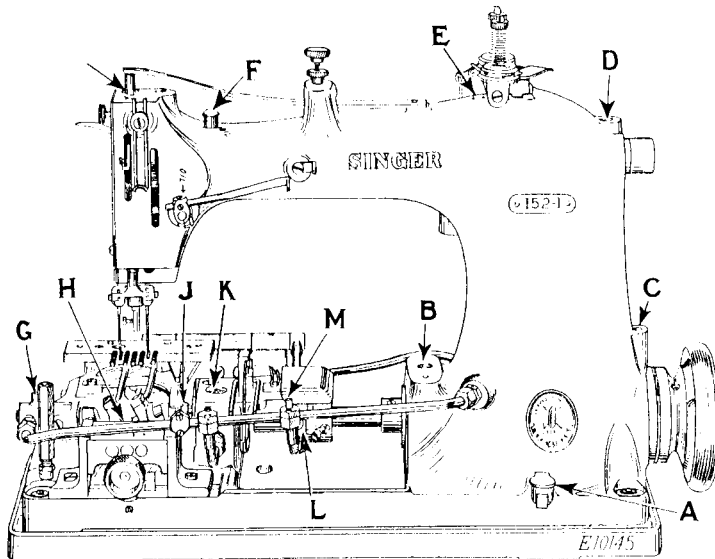

FIG. 2. PRIMING POINTS AT FRONT OF MACHINE
1. Oil reservoir cup (A, Fig. 2) must be filled until it stands **LEVEL FULL** of oil approximately 2 $\frac{1}{4}$ ounces of oil. This supply must be maintained.
2. Fill oil holes (B, C, D, E, F, G, H, J, K, L, Fig. 2) and (O, Fig. 3) **LEVEL FULL** of oil.
3. Fill the main oil pipe to **OVERFLOWING** through oil hole (M, Fig. 2). This primes the various oil wicks and is very important.